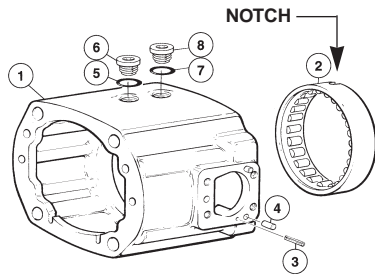

FIGURE 5
PARTS LIST FOR FIGURE 5
See figure 5: Wash and dry all parts. During assembly, lapped and ground surfaces should be kept lubricated with clean oil and protected from nicks or surface damage. Position housing (1) on a clean flat surface with the large open end up.